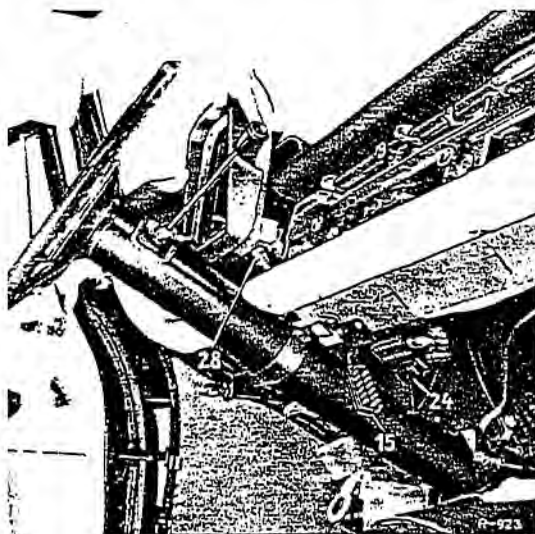

Fig. 54-11/2
2. Pull out the 12-pin plug (15) from below the instrument panel (Fig. 54-11/2).
3. From behind the instrument panel, unscrew by hand the oil pressure gage line and the fastening nut (20) (wing nut) from the instrument cluster (Fig. 54-11/1).
4. Unscrew the capillary tube (19) for the radiator thermometer from the left side of the engine. Remove the rubber grommet for the capillary tube and the choke control, and pull the capillary tube toward the rear through the front wall.
5. Pull out the instrument cluster together with the frame toward the rear far enough to allow the speedometer drive shaft (28) to be disconnected (Fig. 54-11/2).
6. Remove the instrument cluster and frame (23) carefully, taking care not to damage the capillary tube (19) of the radiator thermometer (Fig. 54-11/1).